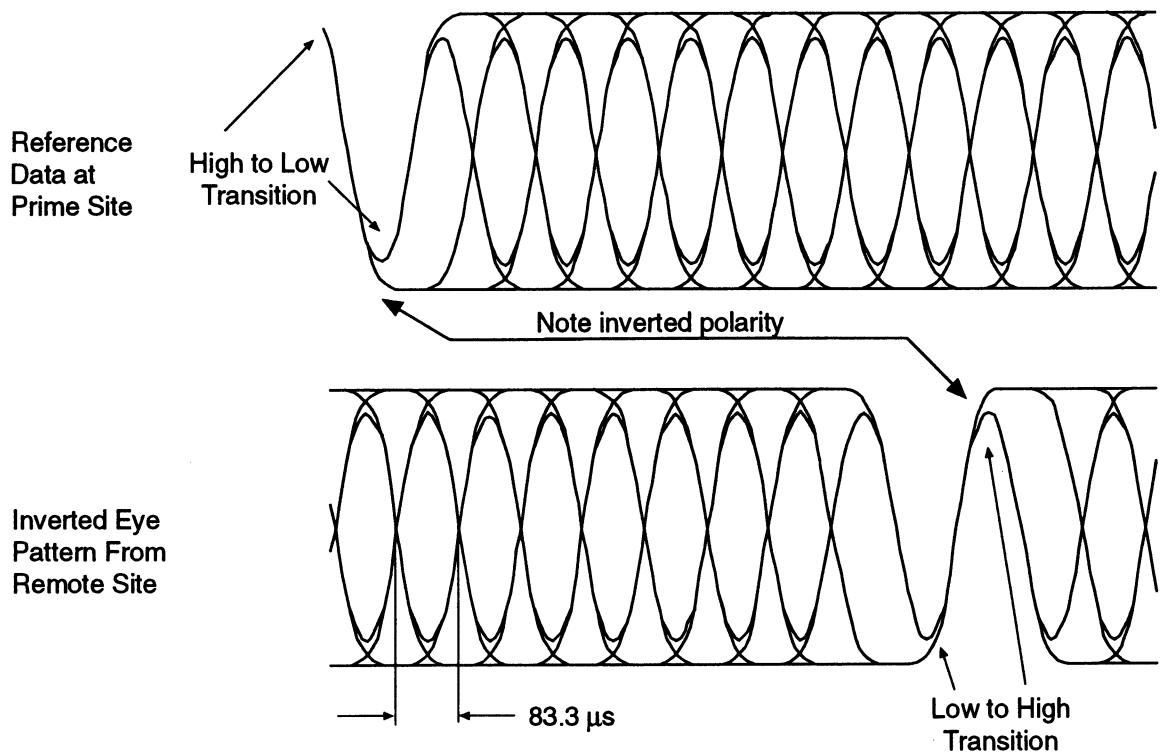

Figure 19. Inverting Polarity for a Two-Level System
- If an inverting receiver is being used (Spectra consolette), your eye pattern looks like Figure 19. Notice the high to low dip in the eye pattern on the prime site; however, the dip in the eye pattern from the remote site goes from low to high.